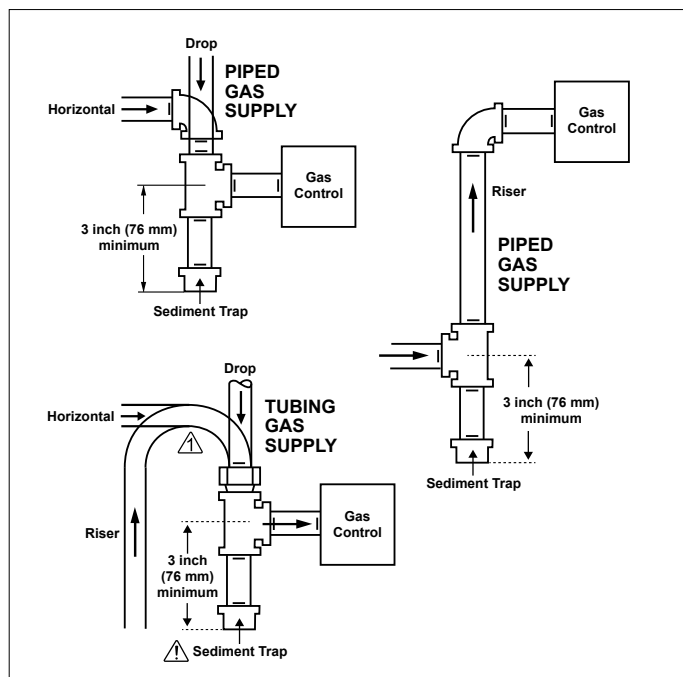

Figure 8: Sediment Trap (where required)
2. Install the sediment trap or filter (where required) in the gas supply line to prevent contamination of the gas valve (see figure 8, page 5).